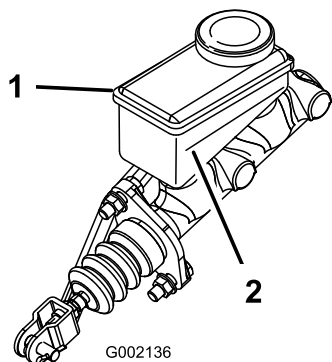

Figure 54
- Rotate the secondary clutch (Figure 54) to see if it spins freely in the NEUTRAL position.
- Rotate the secondary clutch (Figure 54) to see if it rotates the rear wheels.
2. Look at the outline of the fluid level at the side of the reservoir (Figure 54).
- B. Add DOT 3 brake fluid to the reservoir until the fluid level is above the Minimum line (Figure 54).